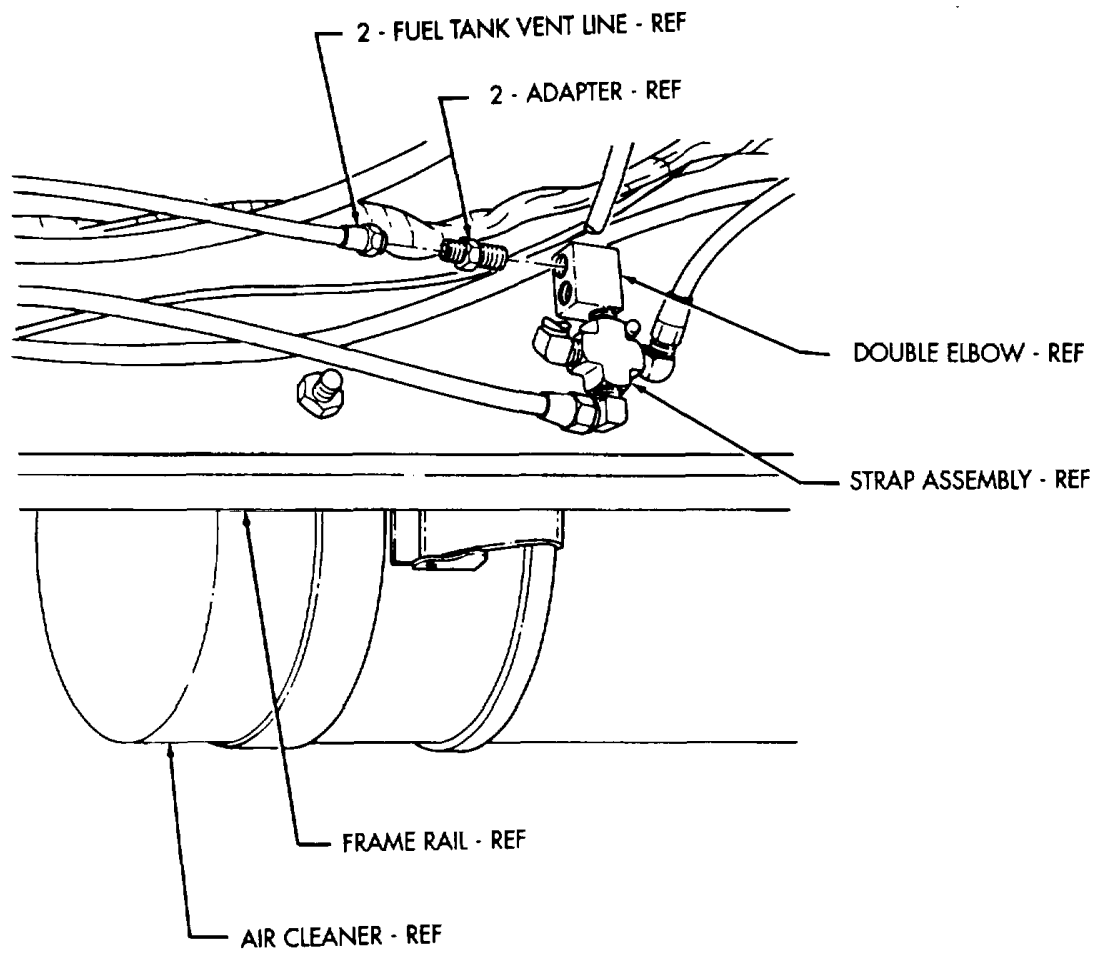

FIGURE 3
- (6) Remove two fuel tank vent lines and adapters from double elbow connected to strap assembly on inside frame of rail, opposite air cleaner as shown in figure 3. Set adapters aside for disposition per para. 8.